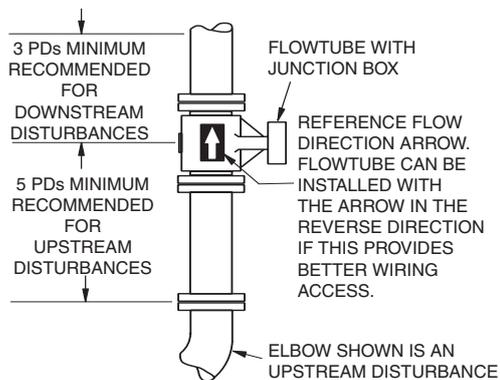

Figure 2. Flanged Body Flowmeter Mounted Vertically – Transmitter Mounted in Remote Location
- The magnetic flowtube must be installed so that it remains full of liquid during operation. An example of good orientation of the flowtube is in a vertical pipeline with flow in an upward direction, as shown in Figure 2.
- The flowtube should have straight, unobstructed piping for a distance of five pipe diameters (5 PDs) upstream and 3 PDs downstream (measured from the center of the flowtube) to ensure optimum performance (see Figure 2). Adjacent process piping should have the same diameter or be slightly larger than the flowtube.
- Figure 2 also shows a flow direction arrow. However, the tube can be installed in the reverse direction if this orientation provides better wiring access to the connection box (tube performance is the same in both directions). If you do install the tube in the reverse direction, then configure the transmitter flow direction parameter for reverse flow, or reverse the polarity of the coil wires